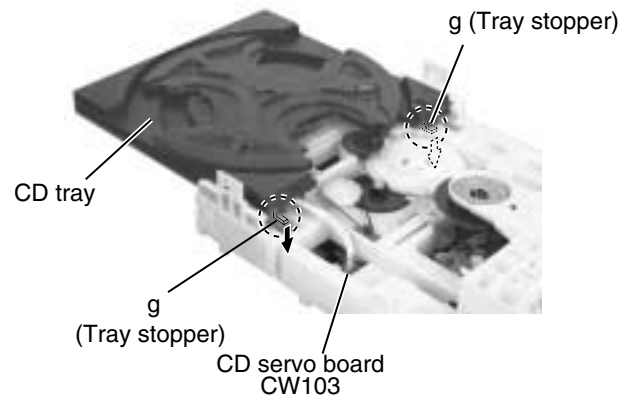

Fig.28
1. Align the gear-cam with the gear-tray as shown fig.28, then mount the CD tray.